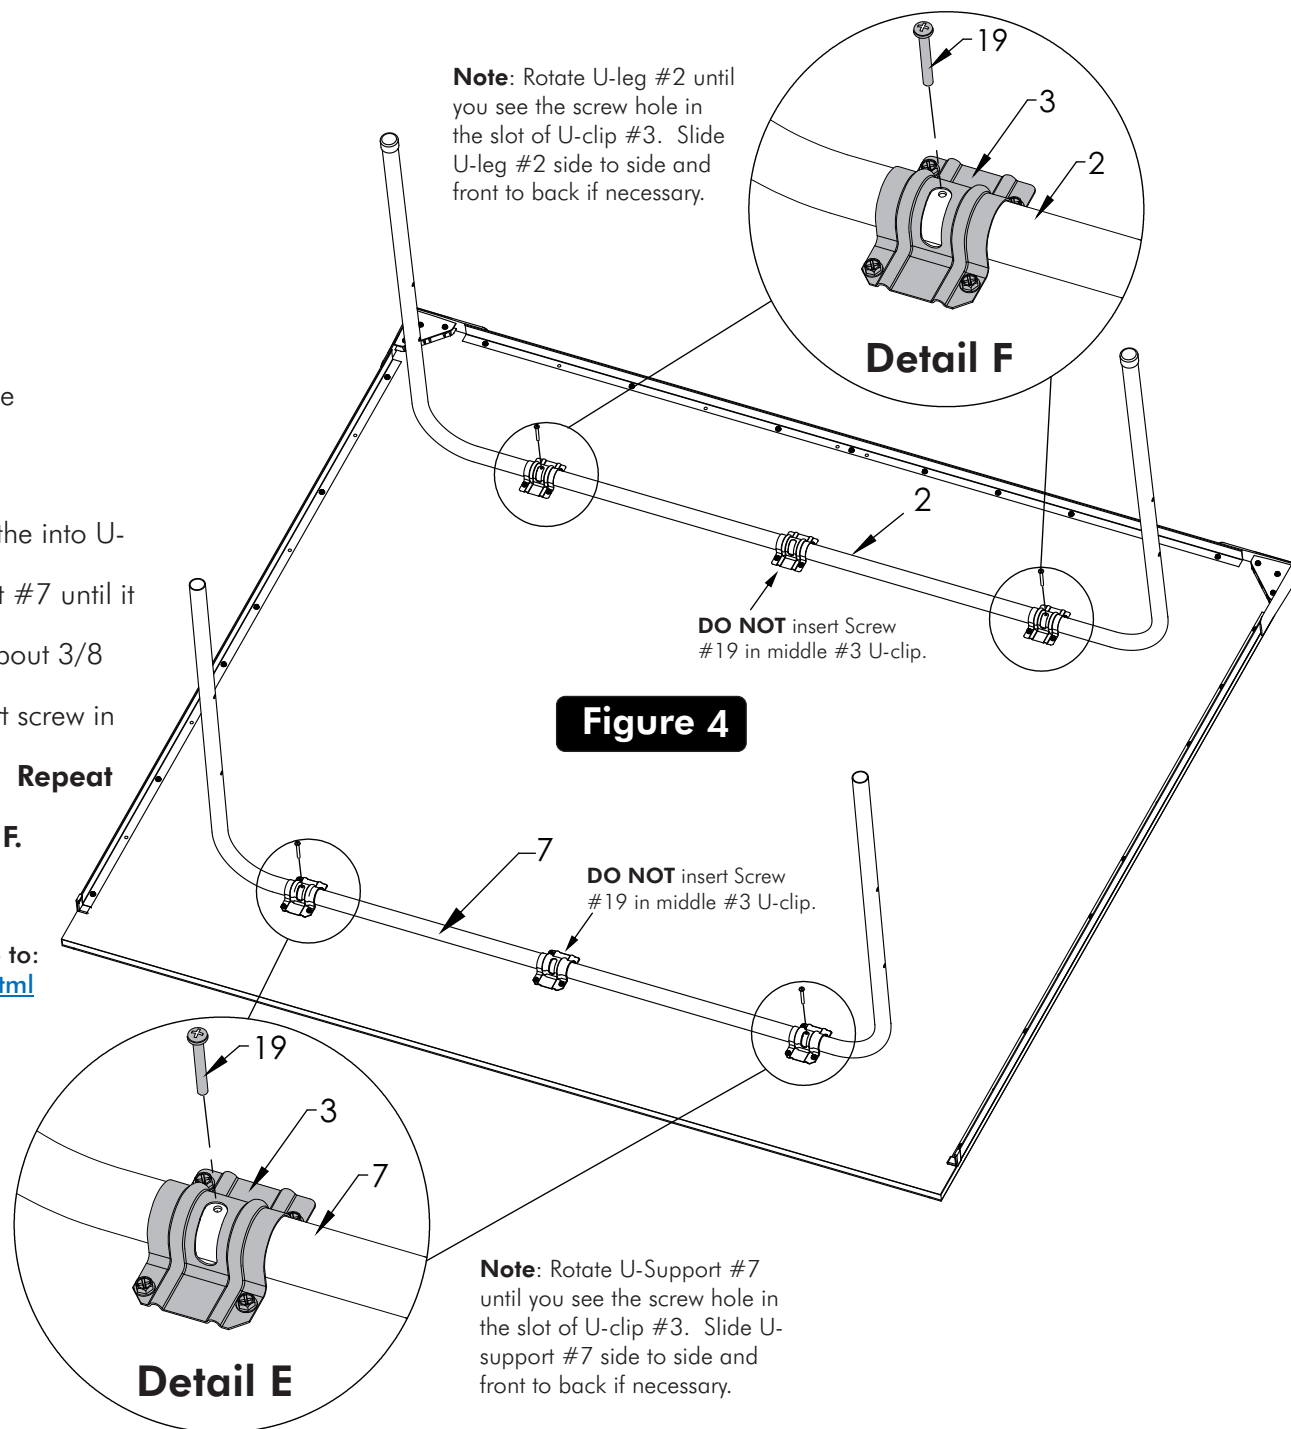

Figure 4
9. Insert Screw #19 through slot in U-Clip #3 and the into U-Support #7. Thread it all the way into U-Support #7 until it touches the back of the tube. There should be about 3/8 inch of screw #19 left sticking out. **Do not** insert screw in middle #3 U-Clip. See **Figure 4** and **Detail E**. Repeat for U-Leg (#2) and U clip (#3). See **Detail F**.